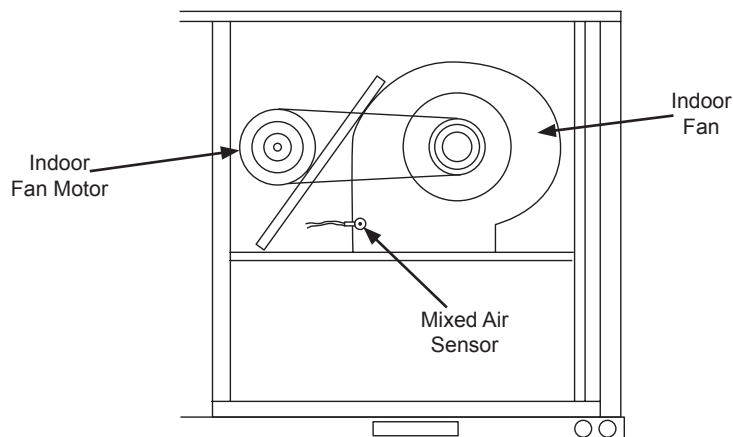

Figure 6A - Mixed Air Sensor Location
3. Mount the mixed air sensor to the indoor fan through the existing bottom screw on the blower. See Fig. 6A.